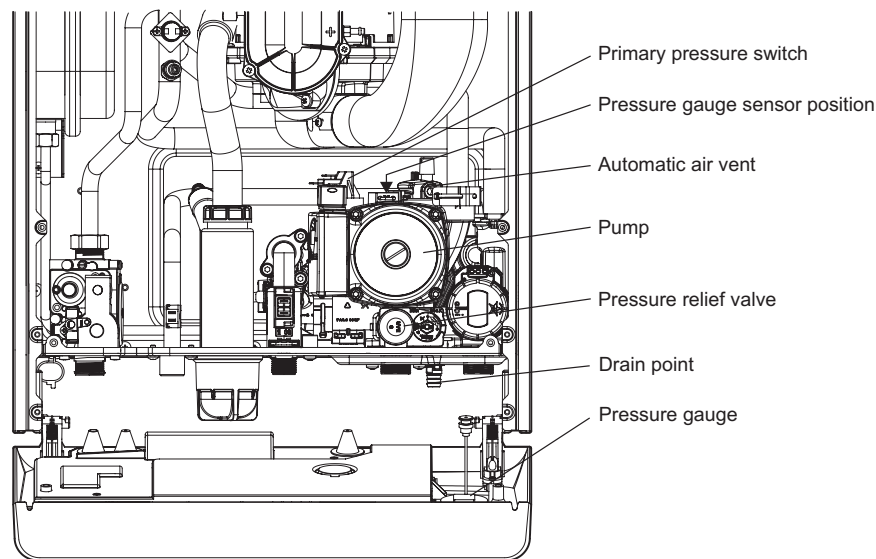

Fig. 27
1. The DHW sensor is positioned in the hot water outlet pipe to the left of the flow switch, see Fig. 27. Unplug the two connections and unclip the sensor from the pipe.
7.21 PRESSURE GAUGE - Fig. 27
7.23 AUTOMATIC AIR VENT - Fig. 27
7.24 PUMP HEAD - Fig. 27
3. Connect the plug to the new head. Ensure the pump is set to maximum (3) and re-assemble in reverse order.
7.25 PRIMARY PRESSURE SWITCH - Fig. 27
7.26 PRESSURE RELIEF VALVE - Fig. 27